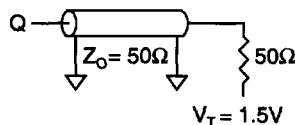

Figure 1
1. Test conditions as specified with the output loading as shown in Figure 1 unless otherwise noted.
| Output load | See Figures 1 and 2 |